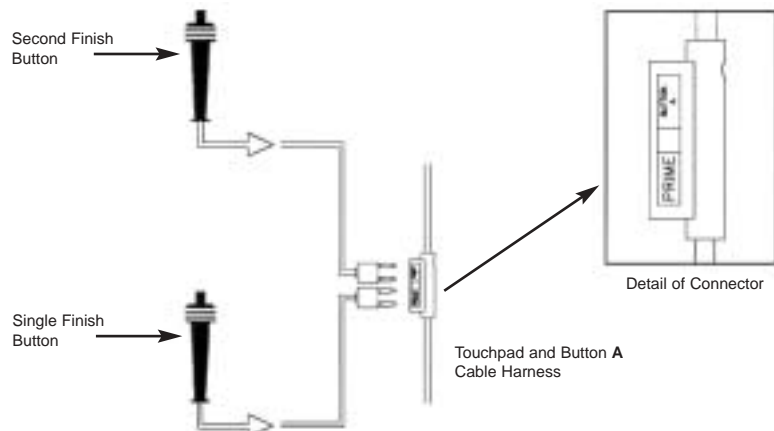

Figure 2-C Button Finish Connections
**Two Buttons:** If you are using 2 finish buttons, plus the second buttons into the A connectors on the touchpad and button A cable harness as shown in Figure 2-C. If a 2 button finish is used, the finish time is the average of the two button times recorded.